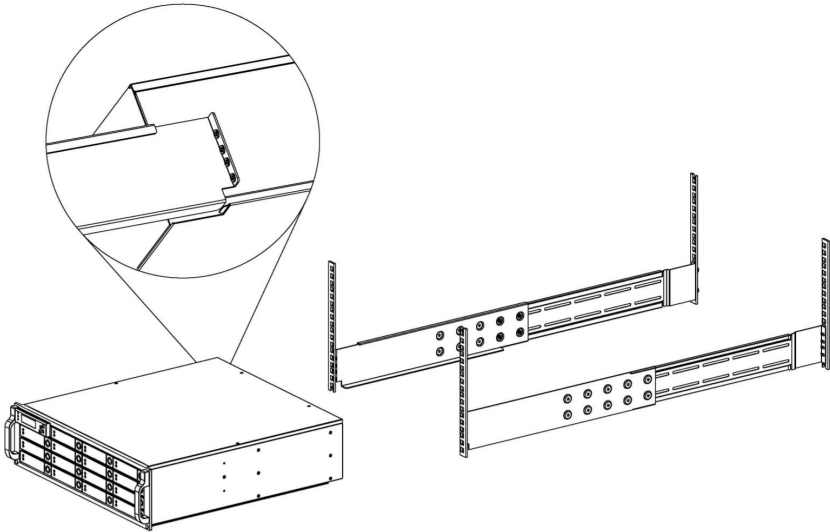

Figure 2.
- 1. Lift the subsystem enclosure and slide it slowly and gently along the slide rail into the rack as Figure 2.